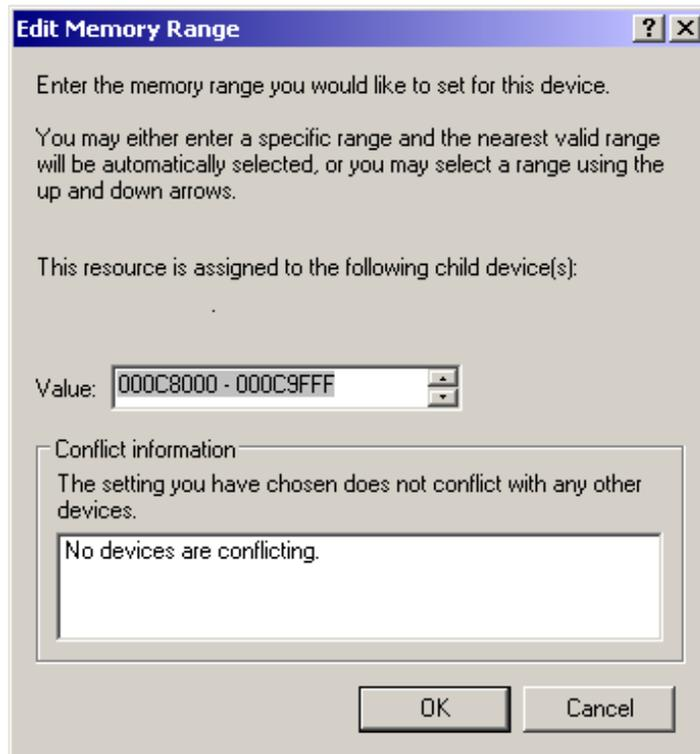

FIGURE 206. Edit Memory Range window
47. This will bring up the Edit Memory Range window as shown in Figure 206.